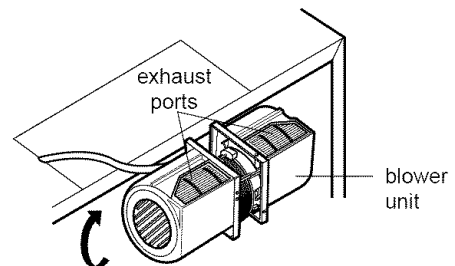

Figure 15
4. Rotate the unit so that the exhaust ports face the rear of the cabinet. See **Figure 15**. Before you insert blower unit, blower wire must be like **Figure 15**.